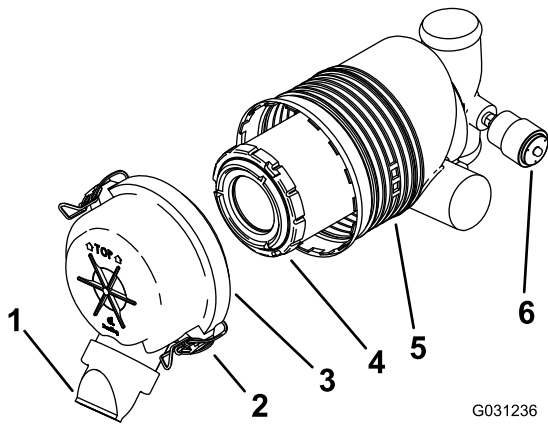

Figure 30
**Important:** Replace the air-cleaner filter only when the service indicator shows red (Figure 30). Changing the air filter before it is necessary only increases the chance of dirt entering the engine when you remove the filter.
5. Release the latches on the air cleaner and pull the air-cleaner cover off the air-cleaner body (Figure 30).
- If the service indicator is clear, install the air-cleaner cover with the dust cap oriented downward and secure the latches (Figure 30).
- Gently slide the filter out of the air-cleaner body (Figure 30).
- Carefully install the filter (Figure 30).
- Install the air-cleaner cover with the dust cap oriented downward and secure the latches (Figure 30).